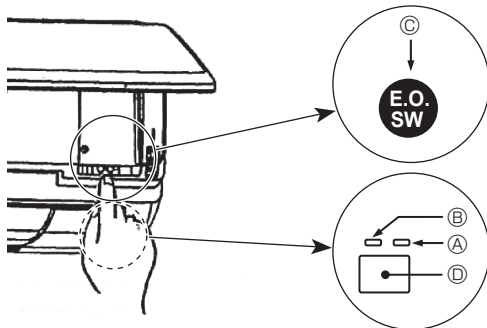

Fig. 5-1
- [Fig. 5-1] ① DEFROST/STAND BY lamp (Orange)
② Operation lamp (Green)
③ Emergency operation switch (cooling/heating)
④ Receiver
- Check "COOL/HEAT" with the operation monitor display. (The orange lamp ① follows this monitor display for 5 seconds after pressing the emergency operation switch.)